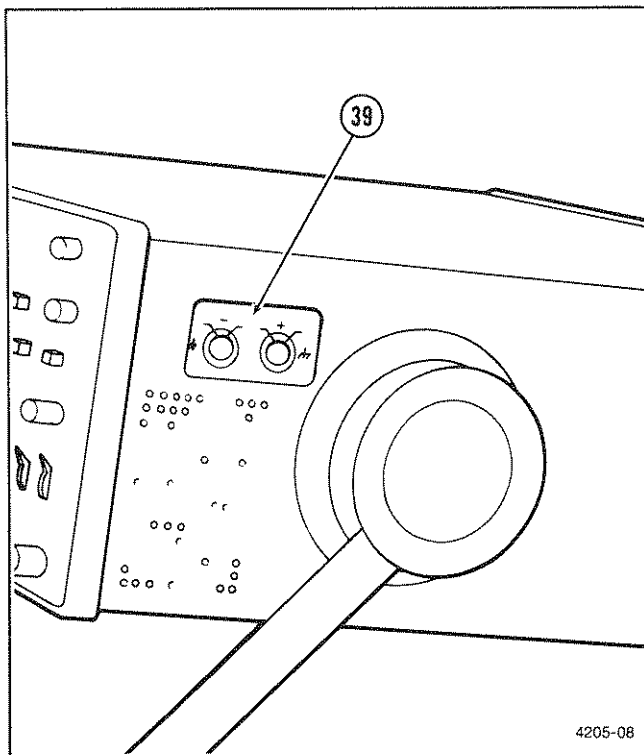

Figure 2-8. Multimeter right side panel connectors.
Refer to Figure 2-8 for location of item 39.